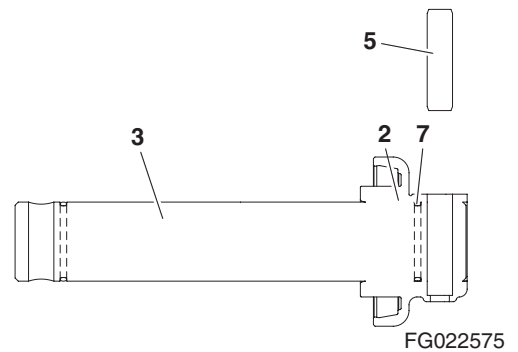

Figure 32
2. Apply grease to the O-rings (7, Figure 32) and insert into axle.
3. Align collar (2, Figure 32) and axle (3) pinholes and pin (5) the collar.